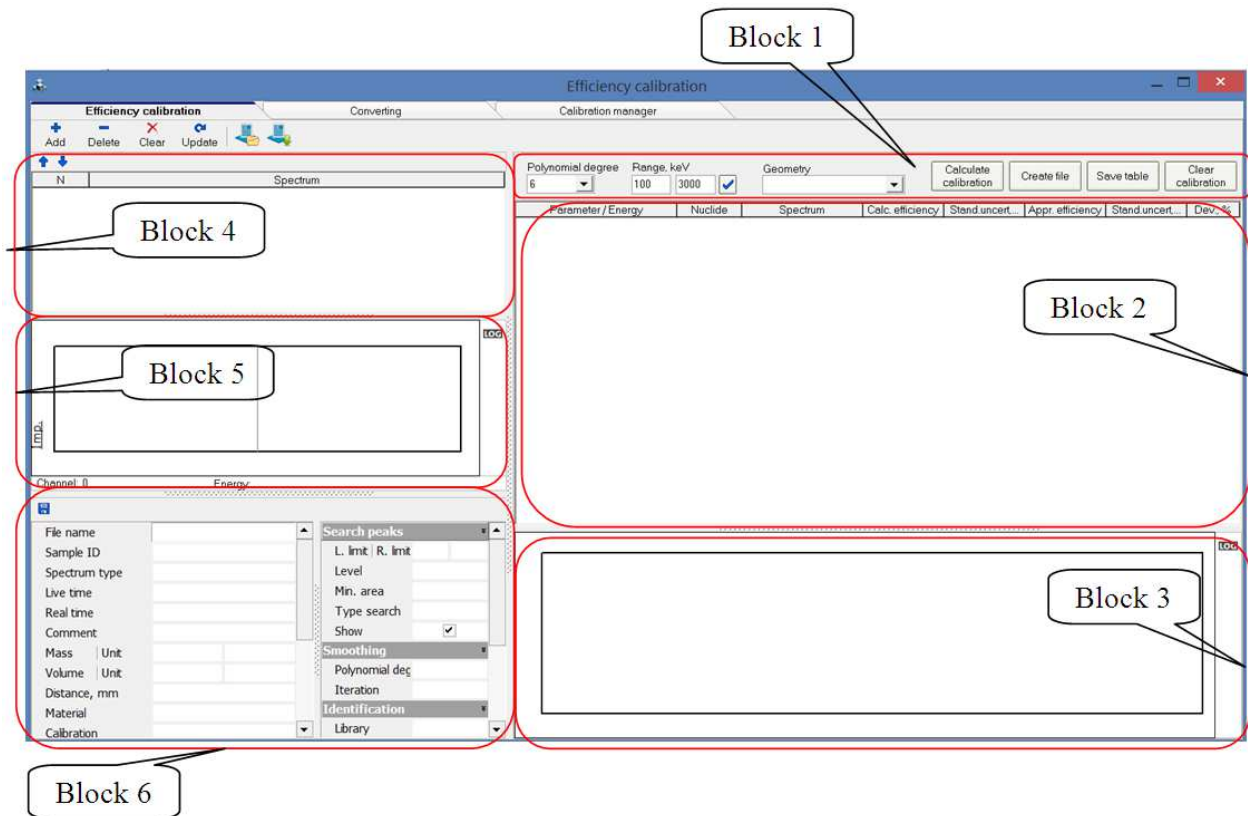
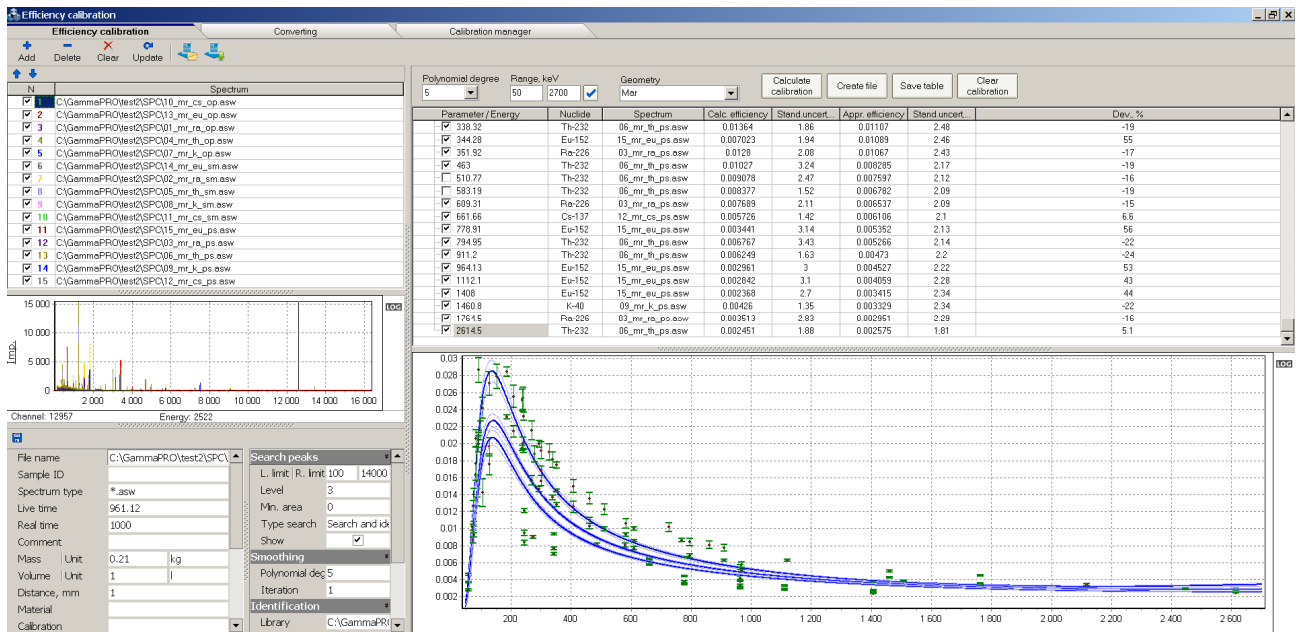
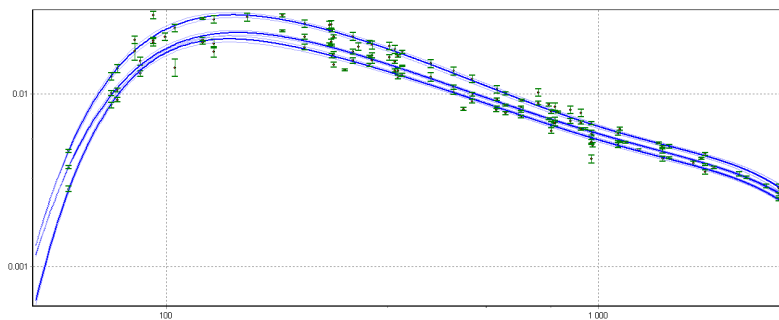

Figure 48. Window **Efficiency calibration**
Figure 50. Window **Efficiency calibration** after calculation of dependence of efficiencies on energy
Figure 50.1. View of efficiency curves on a logarithmic scale
After spectra have been loaded, their list appears in a table (Fig.48, block 4) or as shown on Figure 50. Histograms of spectra are displayed on a graph (Fig.48, block 4 or Fig.50).
The information with parameters of the current (selected in the table) spectrum is displayed on the panel under the graph of spectra (see Fig.48, block 6). To be noted, the histogram of the current spectrum is displayed on a graph with a bold red line.
9.4.6 Open the **Efficiency calibration** window (see Fig. 48) by pressing  on the toolbar of the programme. Choose tab **Efficiency calibration** which is the first tab in the window's title.
9.4.8 Set parameters of the efficiency curve (Fig. 48, block 1):
9.4.9 Press **Calculate calibration** (Fig. 48, block 1), then the table (Fig. 48, block 2, and Fig.50) will show a tree with data on efficiencies, and the graph below will display the curves approximating calculated points of values of efficiencies (Fig. 48, block 3, and Fig.50).
9.4.11 To explore the shape of received curves, you can toggle the scale to the logarithmic mode. To do this, you should check **Log** located on the panel (Fig.48, block 1). The appearance of the graph will change, and will look as shown in Fig.50.1.